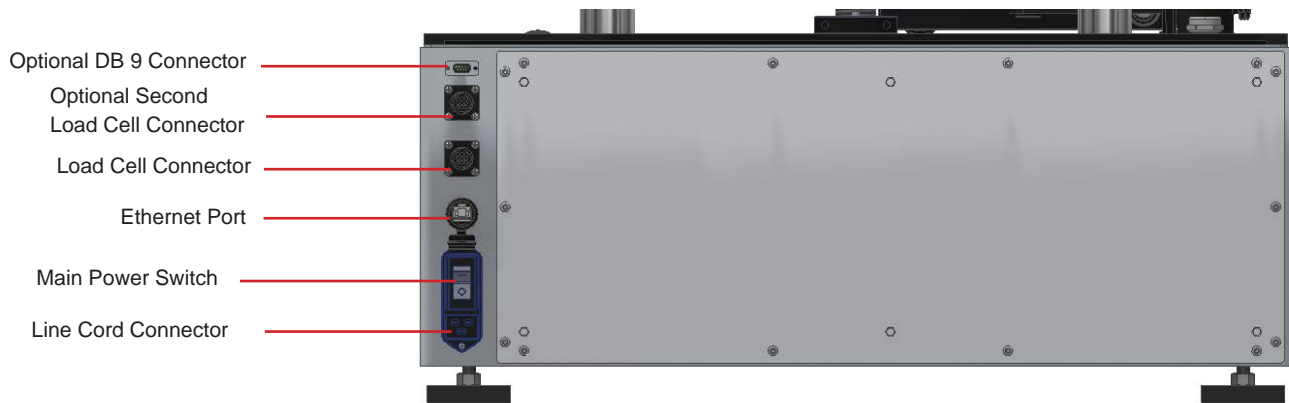

Figure D.3: Line Cord Connection
6. Connect the line cord to the connector provided on the rear of the UTM (Figure D.3). Make sure all controls are set to the OFF position. Check the main power switch/circuit breaker above the connector to make sure it is in the OFF position.